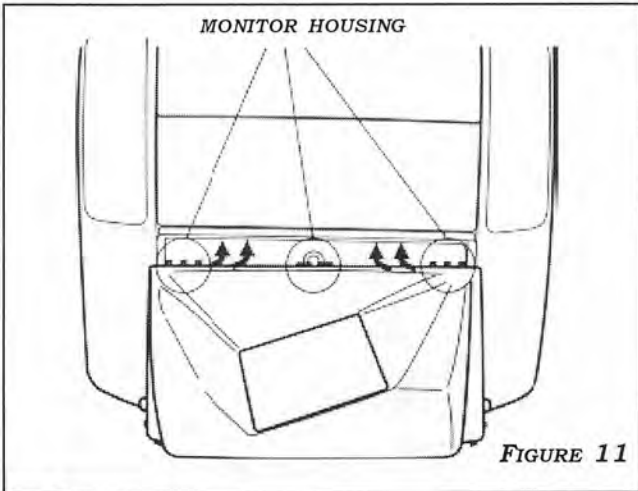
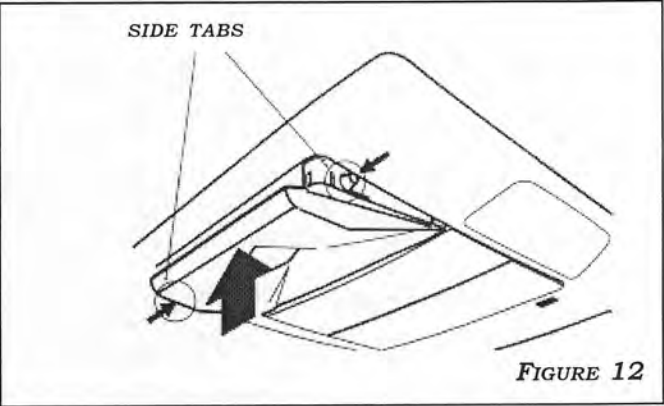

FIGURE 11
FIGURE 12
1. TO INSTALL MONITOR ASSEMBLY INTO OVERHEAD CONSOLE: START WITH REAR EDGE "HOOK" TABS ON MONITOR HOUSING INTO OVERHEAD CONSOLE. FIGURE 11. THEN PRESS SIDE TABS INWARD AND PUSH FRONT OF MONITOR ASSEMBLY UNTIL IT LOCKS INTO POSITION. FIGURES 12,13